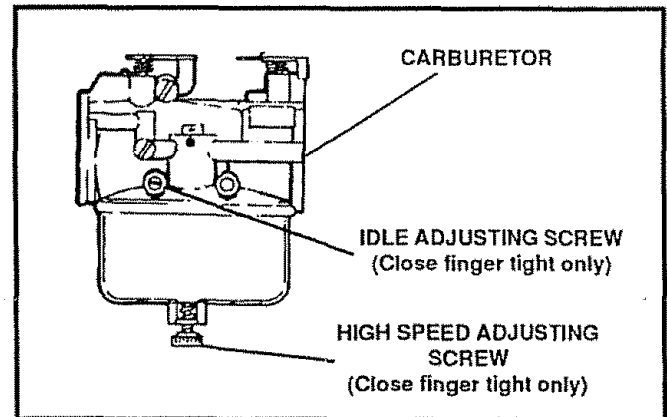
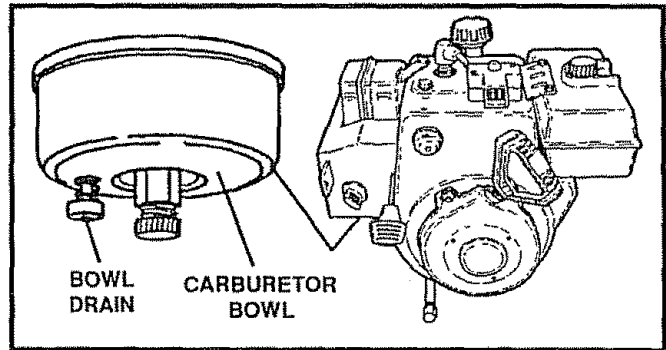

FIG. 40
FIG. 42
The carburetor (See Fig. 40 and Fig. 42) has been pre-set at the factory and readjustment should not be necessary. However, if the carburetor does need to be adjusted, proceed as follows:
- To remove gasoline, run the engine until the tank is empty and the engine stops. Then drain remaining gasoline from carburetor by pressing upward on bowl drain located on the bottom of carburetor (See Figure 42).